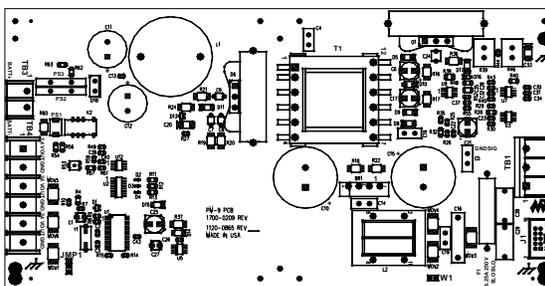

Figure 3.5.1.1 PM-9 Sub-Assembly
The PM-9 Power Supply sub-assembly is used to provide the operating voltage to an INX or an INX CAB-B Transponder cabinet enclosure assembly. The INX and the INX CAB-B enclosure assembly is comprised of an INI-VGX-FO or INI-VGX-UTP and up to four (4), AM-50 Series amplifier sub-assemblies. In addition, the PM-9 is capable of maintaining and supervising batteries up to 55 A/H. The INX or the INX CAB-B cabinet will accommodate batteries up to 12 A/H. (Batteries not furnished) Figure 3.5.1.1 illustrates the PM-9 sub-assembly.